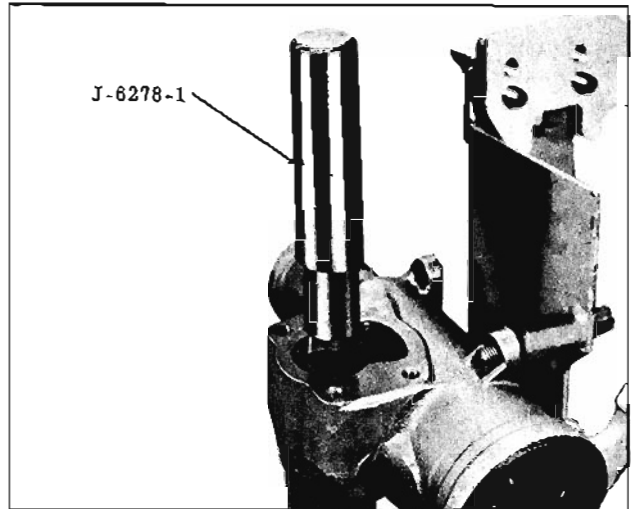

Fig. 8-63 Needle Bearing and Seal Removal
2. If pitman shaft needle bearing replacement is necessary, remove the seal retaining ring, outer steel washer, then drive needle bearing, seals and inner washer out with Tool J-6278-1. (Fig. 8-63)